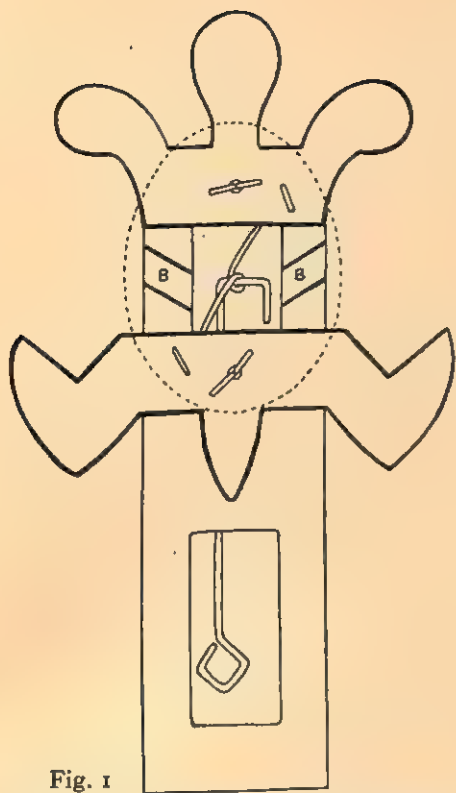

Fig. 1
1. Make Working Drawings (see page 16, par. 1) of the various parts, trace them on the wood, and cut out with fretsaw. See that the parts correspond as in Figs. 1 and 2. Shape further if necessary.
5. Put legs in position on stand as in Fig. 1. Insert the two cotter pin joints, but do not finally flatten out their ends or the ends of the connecting wire till you have tested the movement and made any necessary adjustments. Two staples placed as in Fig. 2 will keep the handle steady when working.
6. Take the two pieces B and B (see Fig. 1), and glue them in position on the stand. Glue and nail the larger body piece on B and B, thus allowing space for the legs to work freely. Finish by gluing and nailing smaller body piece in position.